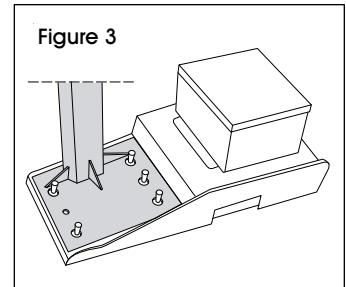

Figure 3
2. With second person, position the tower so the film carriage faces the turntable. Align the holes in the base of the tower with five threaded studs in the frame. (See Figure 3)